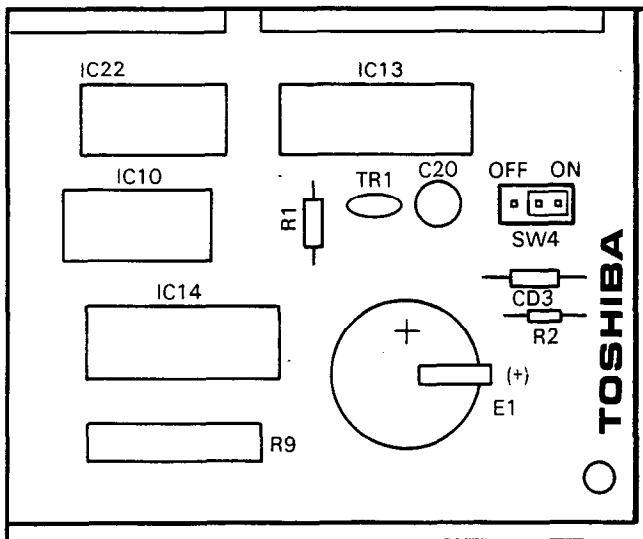

FIGURE 30—VCCU BATTERY STRAP
08.02 Refer to Figure 30 and verify that the battery on the VCCU is connected to ensure that data changes entered after initialization will not be lost due to power failure.